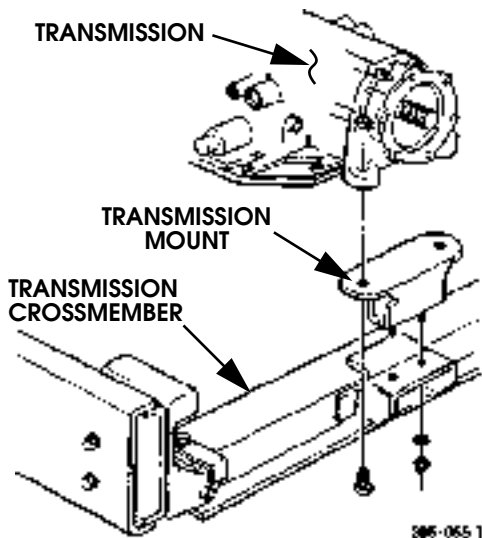

Figure 2-11: Transmission-To-Crossmember Mounting
5. Remove bolts/nuts attaching transmission and mount to transmission crossmember (Figure 2-11).
15. Align and install bolts/nuts that attach transmission to transmission crossmember (Figure 2-11).